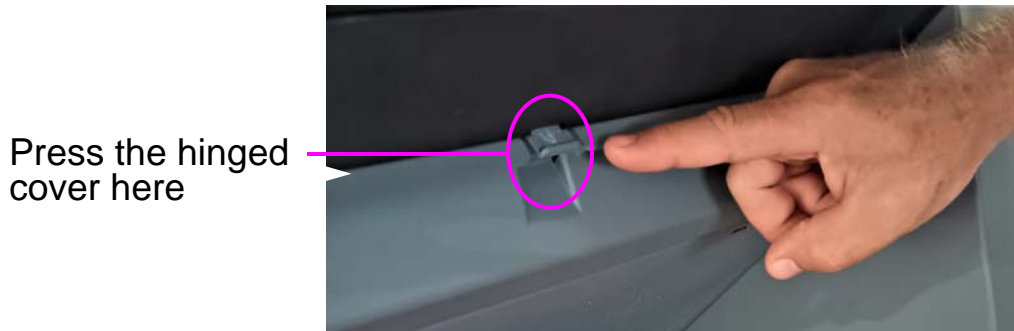

Figure 5-5: Front Printer Access
1. Press the hinged cover under the sort bins (Figure 5-5). The cover will open exposing the printer assembly.